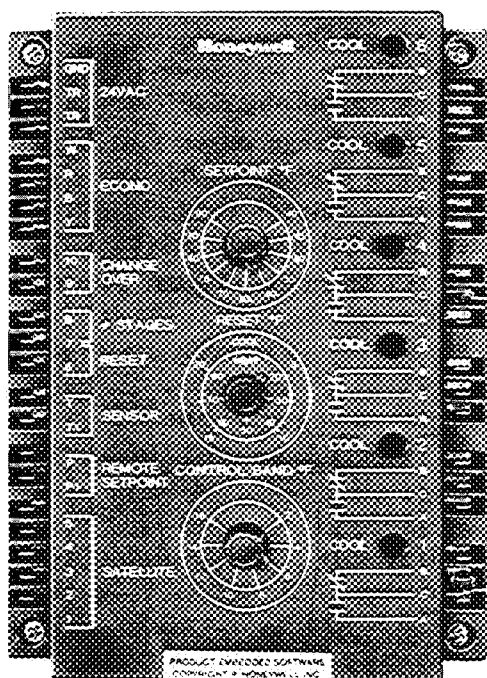

Fig. 20 — Honeywell Microprocessor
Unit capacity is monitored and controlled by a Honeywell W7100 microprocessor (Fig. 20). This controller provides the number of capacity control steps as shown in Table 8.
- 3. Set the control band knob on microprocessor (Fig. 20) at 2.